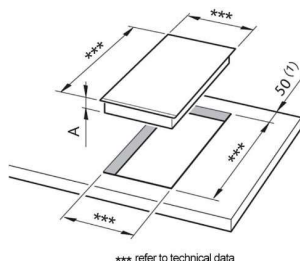

Figure 8.1
In order to install the induction hob into the kitchen fixture, a hole with the dimensions shown in Figure 8.1 has to be made, keeping in consideration of the following:
- The induction hob must be kept no less than 60 mm away from any side wall. The rear wall must be at least 50 mm from the hob (Figure 8.1).